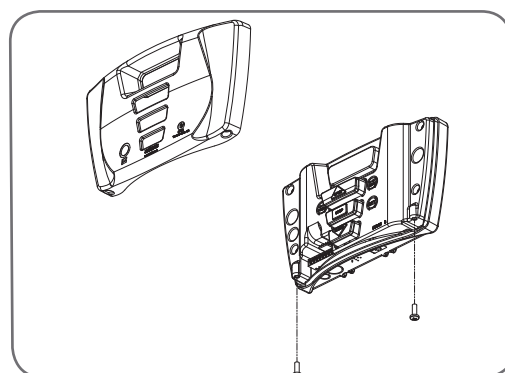

Fig 11.2
- Unscrew the screws at the bottom of the logic console cover (Fig.11.2) and remove the cover to access the PREV, NEXT and SET buttons.